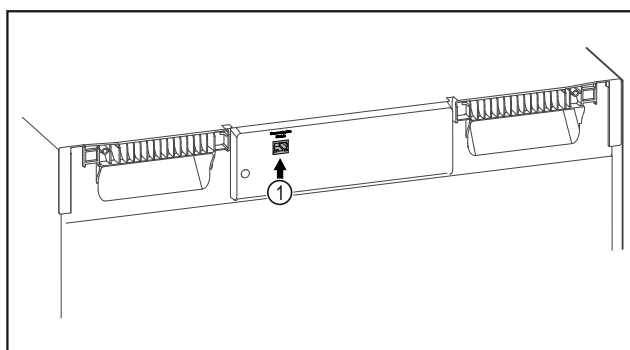

Fig. 98
- SmartModule Fig. 98 (1) is in use.